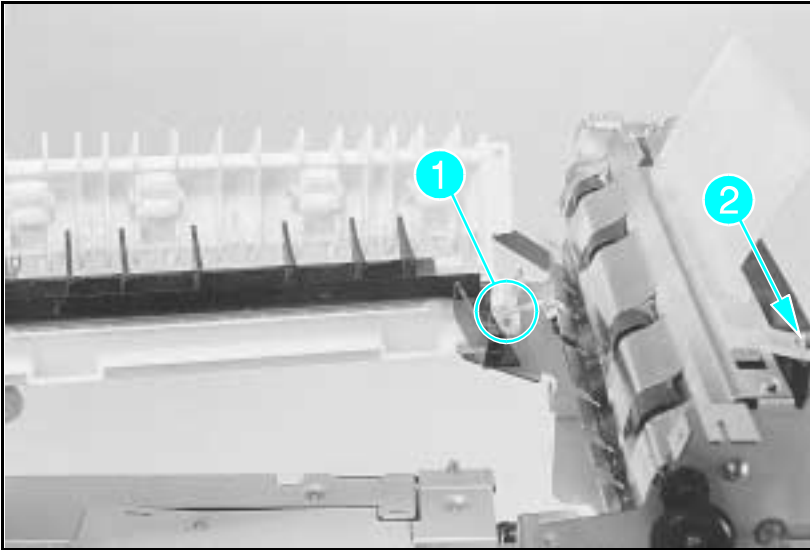

Figure A-12 Wire Routing and Upper Switchback Guide Screw
Note: When re-assembling, verify proper wire routing as shown in Figure A-12, callout 1.
- 3** Remove the (1) screw shown previously in Figure A-12, callout 2. Remove the upper switchback paper guide by releasing its latch with a flat screwdriver and pushing to the side.